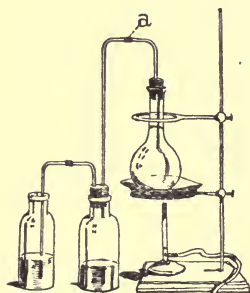

Fig. 27.
(1) Fill 2 recs.  $\frac{1}{4}$  full of water. Connect the apparatus as in Fig. 27, observing how the tubes extend. (A safety-tube may also be used if desired.)
Then put into a flask 10g NaCl (preferably fused) and 20cc H2SO4 which has previously been mixed with 5cc of H2O. Be sure you have enough acid, or the flask is liable to crack. Heat slowly for 10 or 15 minutes over asbestos, but *do not let the froth extend to the neck of the flask*. Look for any current in the liquid of the rec. and explain. (2) Detach the apparatus (at *a*, Fig. 27) and pass some of the escap-